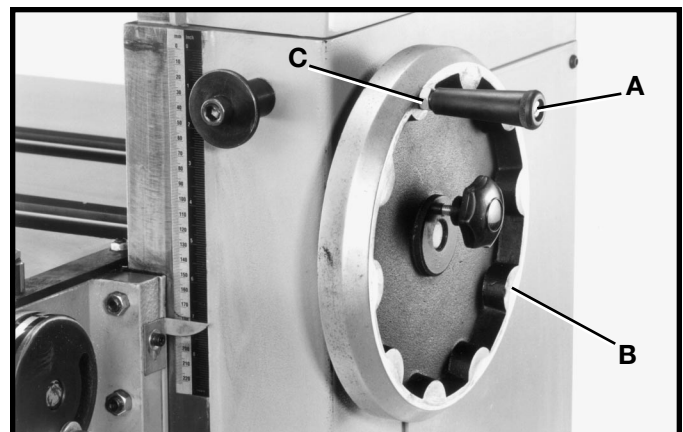

Fig. 6
Thread handle assembly (A) Fig. 6, into handwheel (B) and tighten locknut (C).